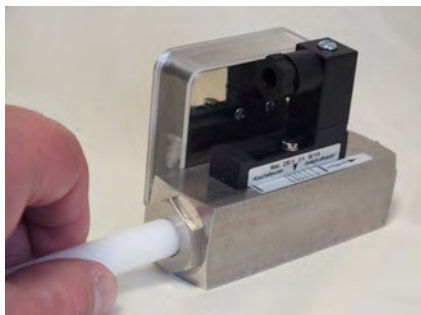

Fig. 61: Check for smooth operation
12. ▶ Check the float for ease of movement (Fig. 61) by applying light pressure with the test rod.